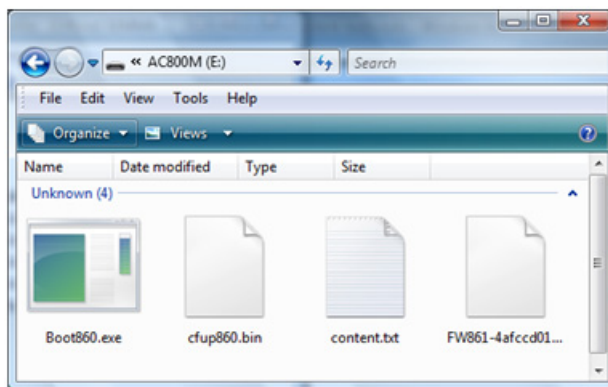
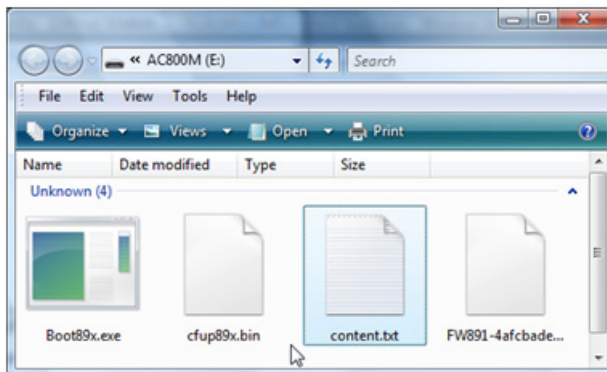

Figure 78. Firmware image files on CF card
Figure 79. Firmware image files on SD card
- There will be four files on the card (see Figure 78 for CF card and Figure 79 for SD card). If the media card is CF, then it has been formatted as FAT.